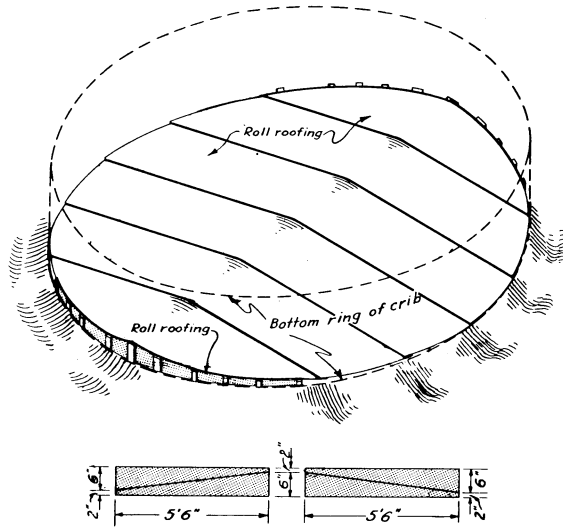

Figure 4. Plan for making ridged fill, roll roofing floor for snow fence or wire mesh corn crib.
2. Prepare ridge fill and cover as described above and as illustrated in Figure 4.